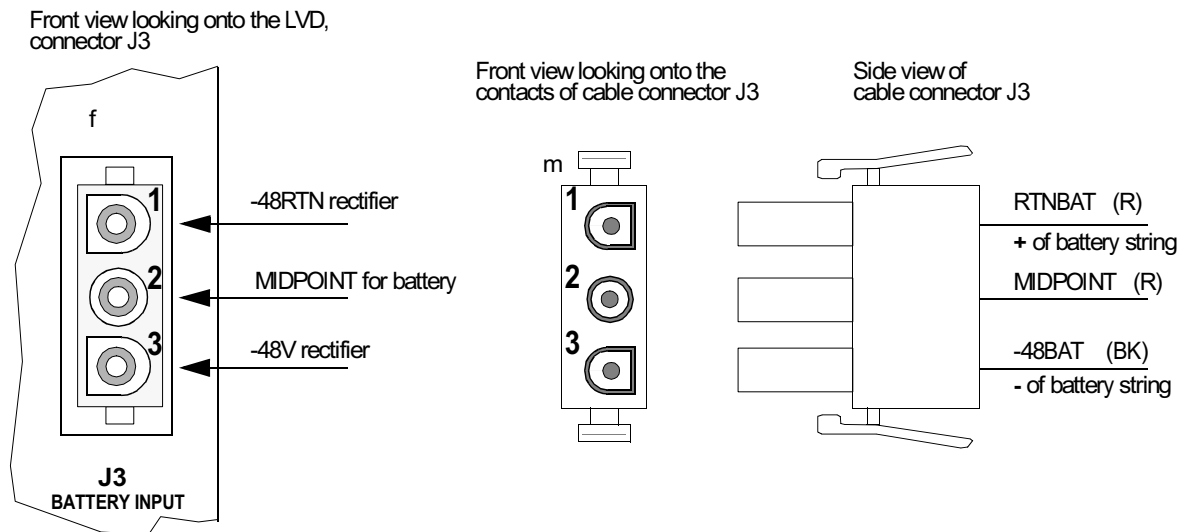

Figure 8-5 Wiring of connector J3 for the LVD and wiring of battery cable connector J3
Alternatively, you can measure the rectifier voltage at the terminals of battery input connector J3 on the faceplate of the LVD without voltage drop, but you must take care to avoid short circuiting the rectifier. Figure 8-5 illustrates the wiring of J3.
- Step 8 Measure the string voltage on the outermost pins of the battery cable connector J3 and record in the installation record. See Figure 8-5 on page 8-13 for the wiring of J3.